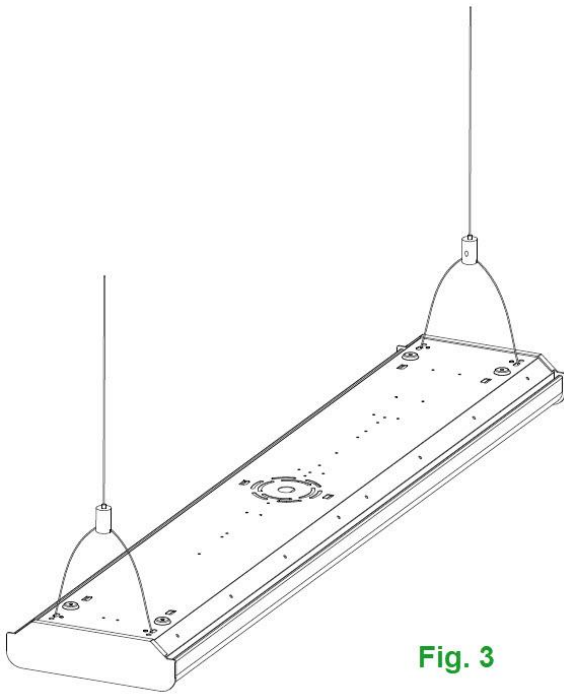
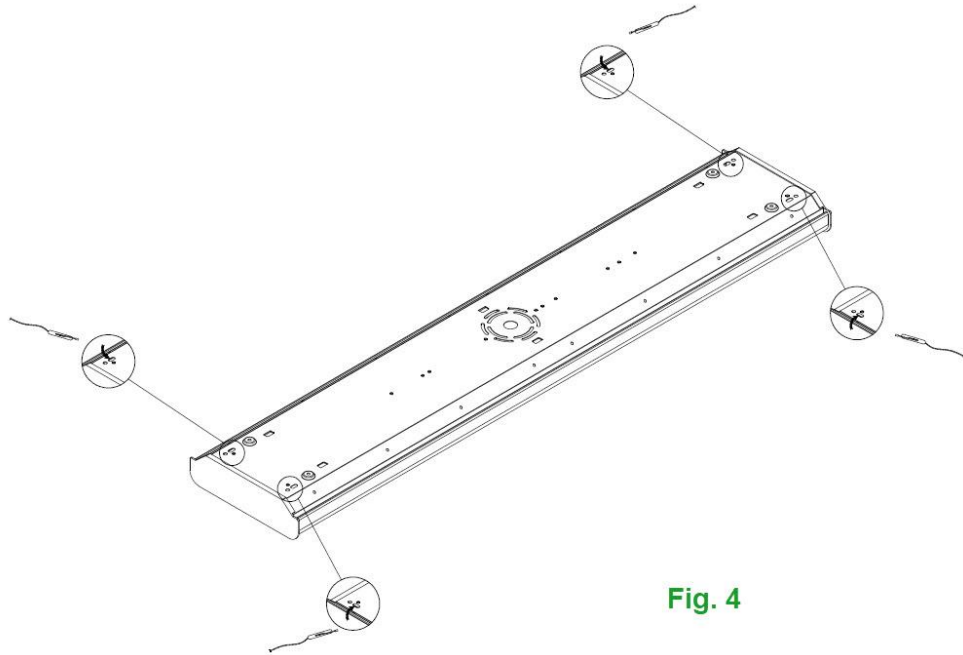

Fig. 3
Fig. 4
- a. Attach suspension kit in 1 of the 2 ways see in **Fig. 3** or **Fig. 4**, insert anchors and mount to the ceiling.